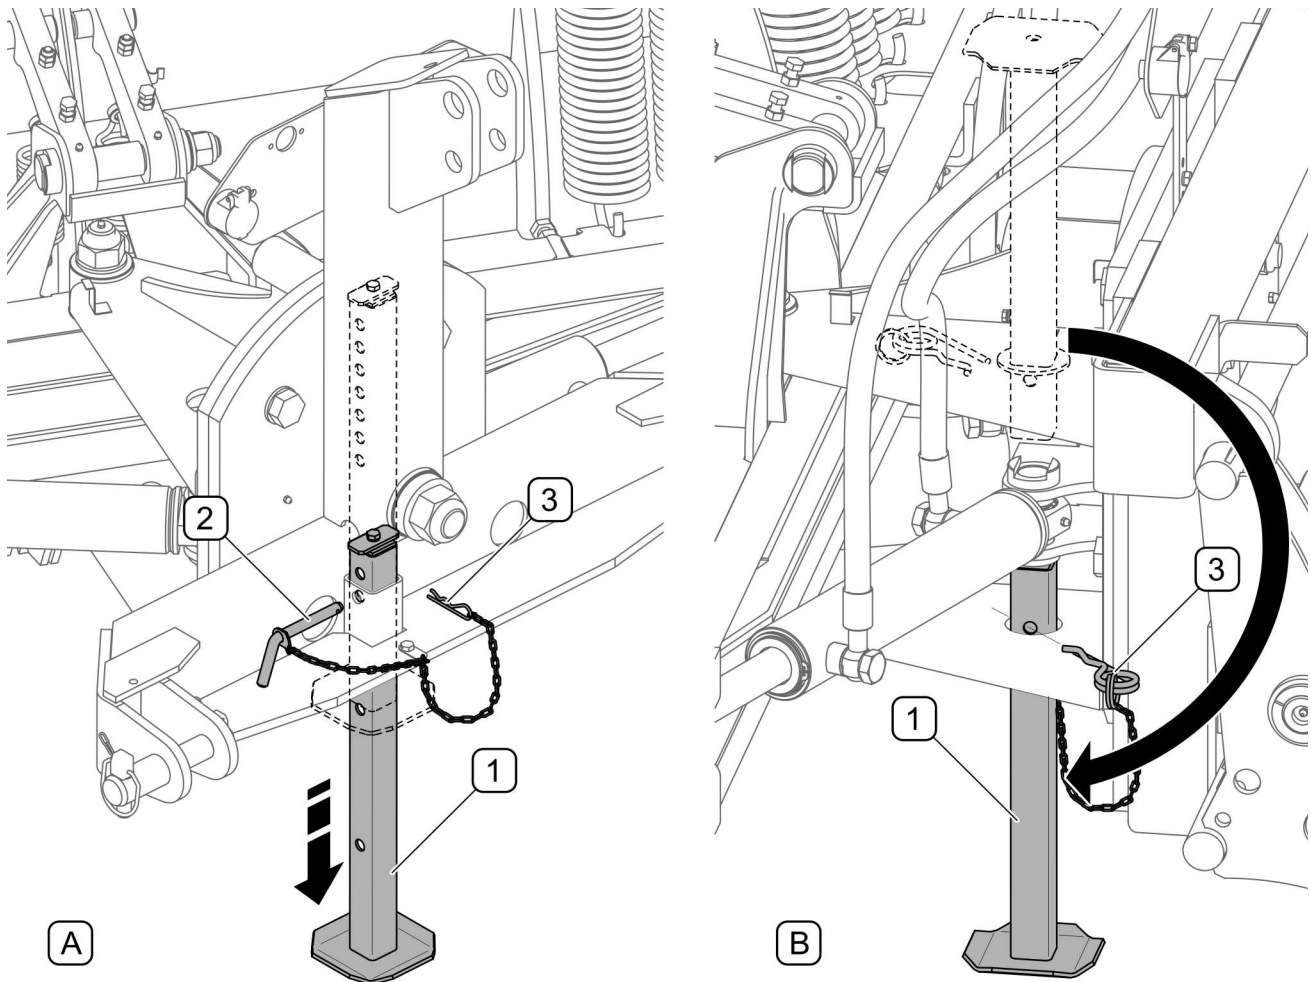

FIGURE 4.13 Lower parking stand
- in a pivot linkage system (FIGURE 4.13 A) remove the cotter pin (3) and pin (2), lower parking stand (1), set at the correct height, insert the pin (2) and lock with a linchpin (3),
- in a swing linkage system (FIGURE 4.13, B) parking stand (1) inserted in the upper opening of the cylinder frame should be removed, reversed, and inserted in the lower opening of the frame and secured with linchpin (3),